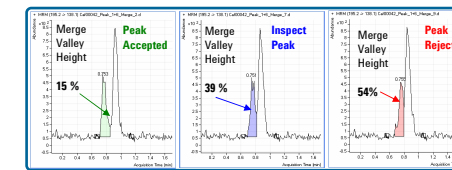

Figure 5. Peak validation with regards to merged peaks, and color-coding of peak quality.
Step 8: For each peak, the algorithm then tests the peak quality with regards to the following criteria, and classifies them as 'Accepted', 'Inspect' or 'Rejected' (see Fig. 5+8).
For example, if there are merged peaks to the right and left, and the height of the adjacent merged valleys exceeds 20%, a peak is flagged as 'to be inspected'; if it is above 50% the peak will be rejected (see Fig. 5).
When encountering merged peaks such as for diastereoisomeric drugs and their metabolites the new integrator is able to properly calculate peak areas, but will start to flag peaks as 'to be inspected' or 'rejected', if the merge valley exceeded certain threshold values (see Fig. 5).